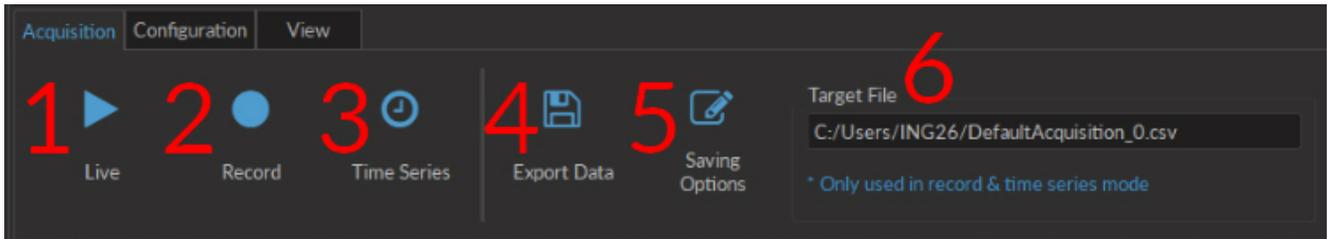
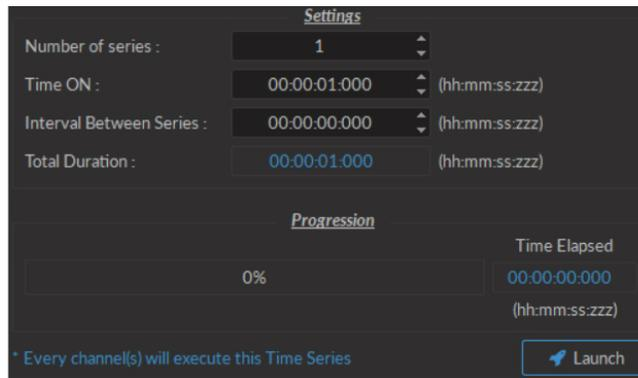
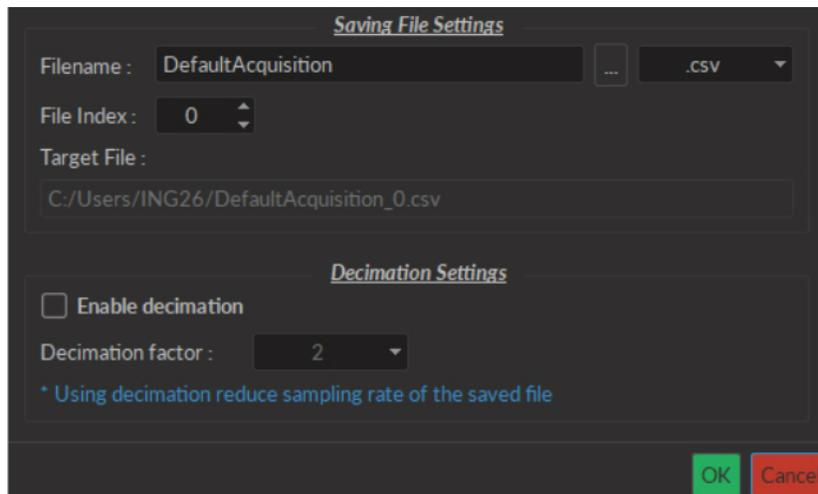

Figure 3.15: Acquisition Tab
Figure 3.17: Time Series Window
Figure 3.18: Saving Menu Window
1. The **Live** button (Fig. 3.15) activates all prepared channels. This mode does not automatically save data, keeping only the most recent 700 000 data points in memory. This mode is not recommended for long or critical measurement sequences.
2. The **Record** button (Fig. 3.15) activates all prepared channels while periodically saving recorded data to the disk. This mode is recommended for long measurement sequences.
3. The **Time Series** button (Fig. 3.15) opens the **Time Series Window** (Fig 3.17). This window allows the organisation of timed activation using the following parameters. Each **Time series** sequence is automatically saved to the same .csv file as defined in **Saving Options**.
4. The **Export Data** button (Fig. 3.15) will export all data in the **Acquisition view** into a .csv file. This is the only way to export data obtained will using the **Live** acquisition mode.
5. The **Saving Options** (Fig. 3.15) button opens the **Saving Menu** window (Fig. 3.18).
6. The **Target File** box (Fig. 3.15) displays the save location and name used for files obtained using **Record**.